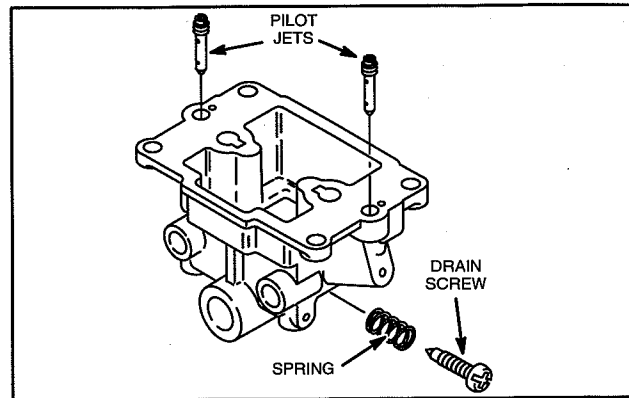

Fig. 56 – Install Pilot Jets
- 7. Install pilot jets, Fig. 56.